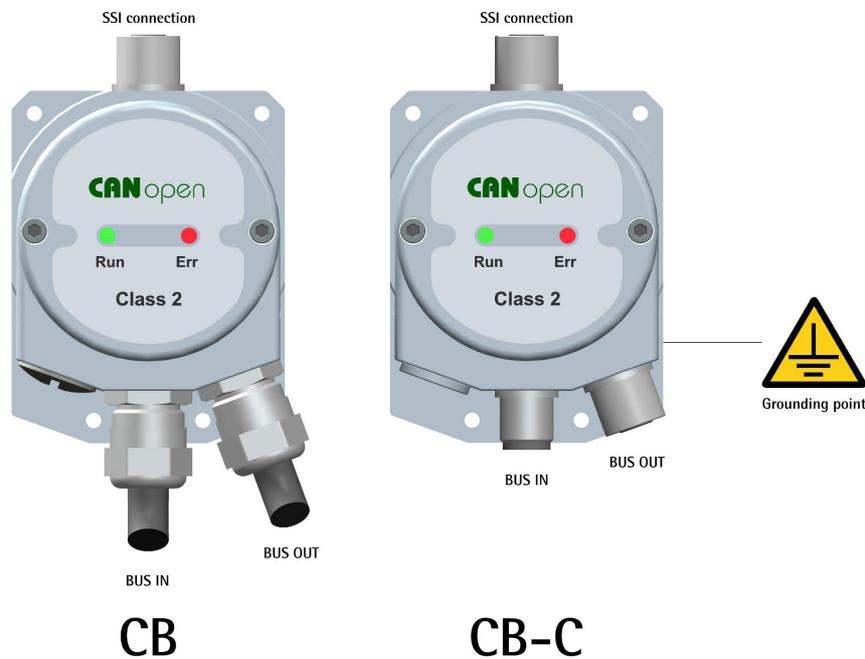
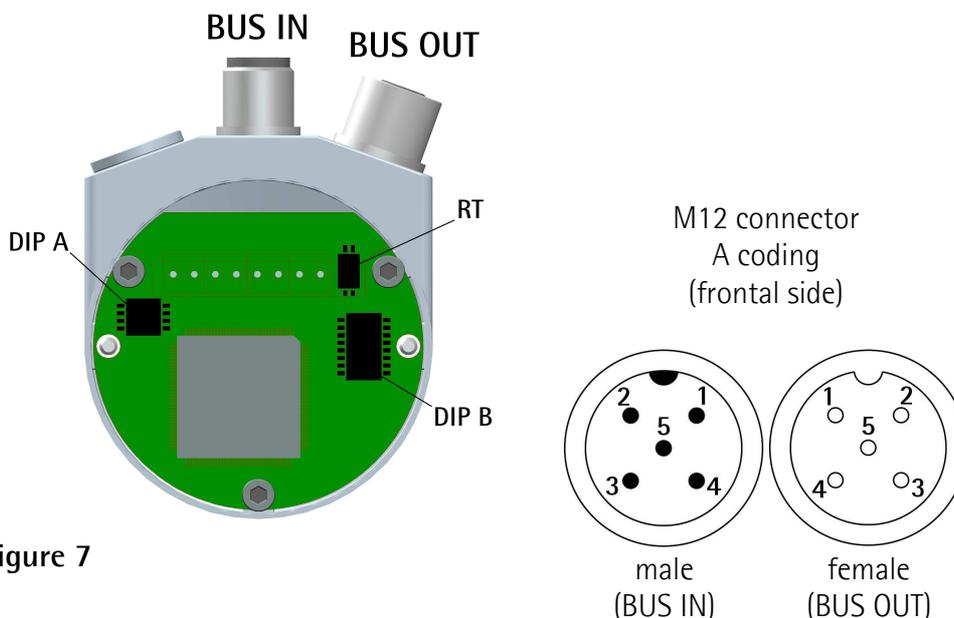

Figure 4
Figure 7
4.2 SSI connection (Figure 4)
4.3 CANopen converter with PGs: CB version (Figure 4 and Figure 6)
4.4 CANopen converter with M12 connectors: CB-C version (Figure 4 and Figure 7)
4.5 Ground connection (Figure 4)
Minimize noise by connecting the shield and/or the connector housing and/or the enclosure to ground. Make sure that ground is not affected by noise. The connection point to ground can be situated both on the device side and on user's side. The best solution to minimize the interference must be carried out by the user. You are advised to provide the ground connection as close as possible to the unit. We suggest using the ground point provided in the connection cap (see the Figure 4, use one TCEI M3 x 6 cylindrical head screw with two tooth lock washers).
4.8 Baud rate: DIP A (Figure 6 and Figure 7)
4.9 Node number: DIP B (Figure 6 and Figure 7)
4.10 RT Bus termination (Figure 6 and Figure 7)